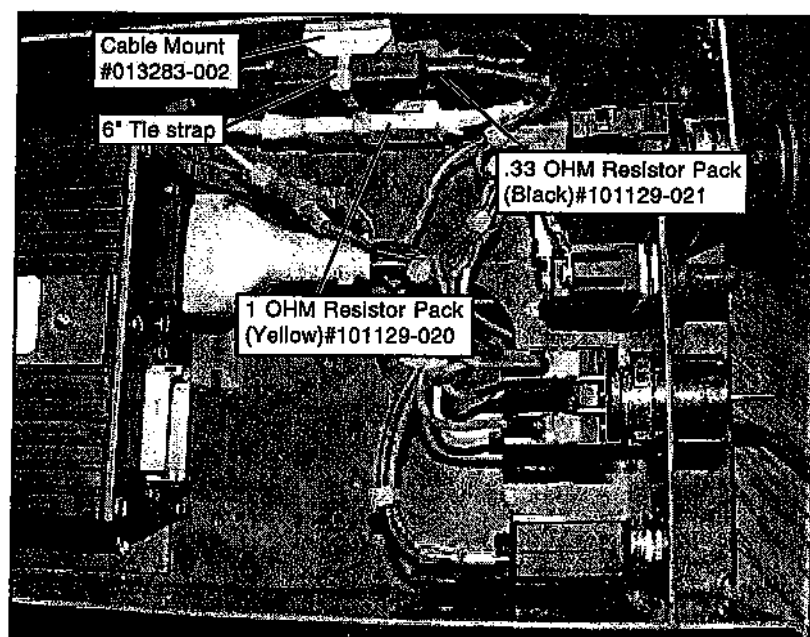

Figure 4
9. Install the 1 OHM Resistor Pack (Yellow, #101129-020) and the .33 OHM Resistor Pack (Black, #101129-021) using the Cable Mounts (#013283-002) and 6" Tie wraps as shown in Figure 4.